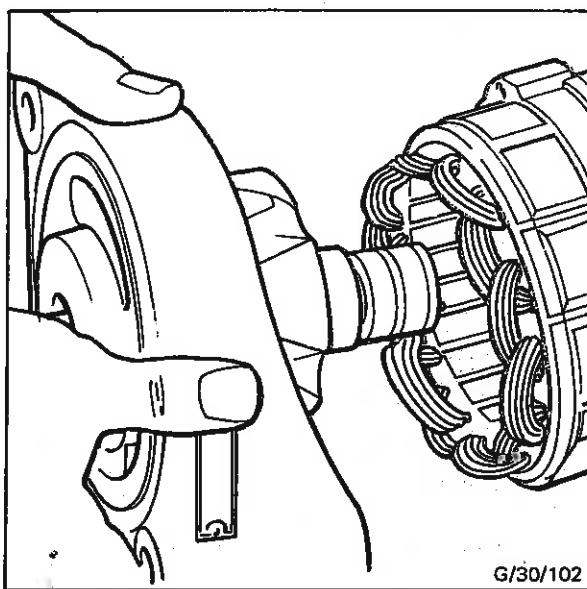

Fig. 63 - Removing Rotor from Stator
7. Remove the three 'through' bolts and spring washers, then remove the alternator from the vice. When 'Eloxite' grade 'A' has been used for retightening these bolts, local heat should be applied with a heated soldering iron, or a small flame to loosen them. No part should be overheated. Using a hide faced mallet, tap the drive end shield away from the stator. As shown in Fig. 63, carefully withdraw the drive end shield complete with rotor from the stator and slip ring end shield, taking care not to damage the slip rings. Do not damage the slip rings when laying drive end shield and rotor assembly on the bench.